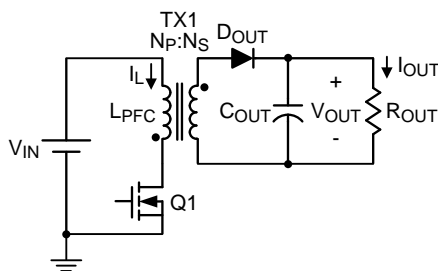

Figure 2. Typical flyback Converter
Figure 2 shows a typical flyback converter. When the MOSFET turns on with a fixed on-time ( $t_{ON}$ ), the inductor current can be calculated by the following equation (1).